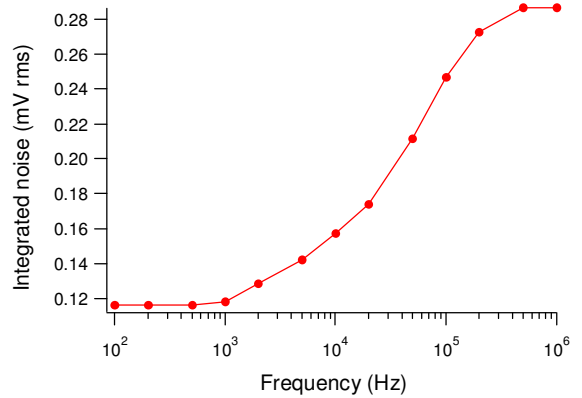

Figure 5. Integrated output noise spectrum
- Integrated output noise spectrum (Figure 5)